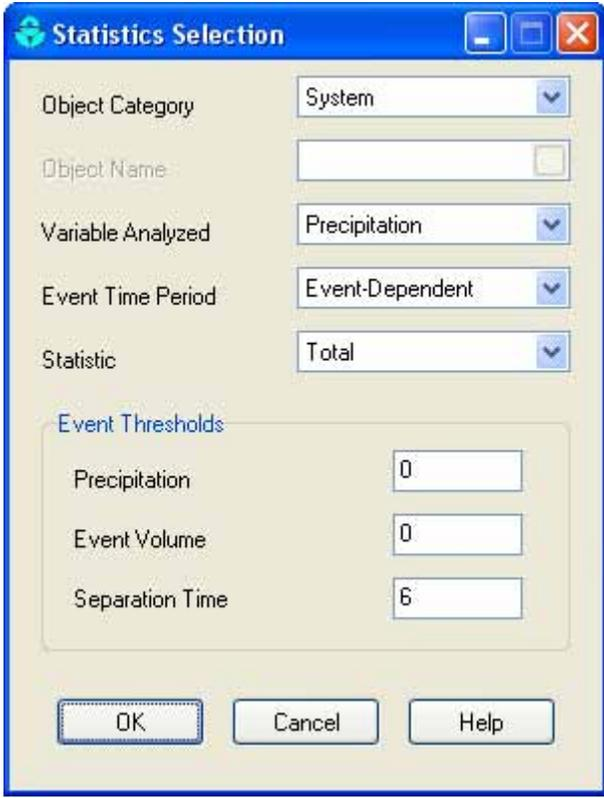

Figure 2-22. Statistics Selection dialog.
2. In the Statistics Selection dialog that appears, enter the values shown in Figure 2-22.